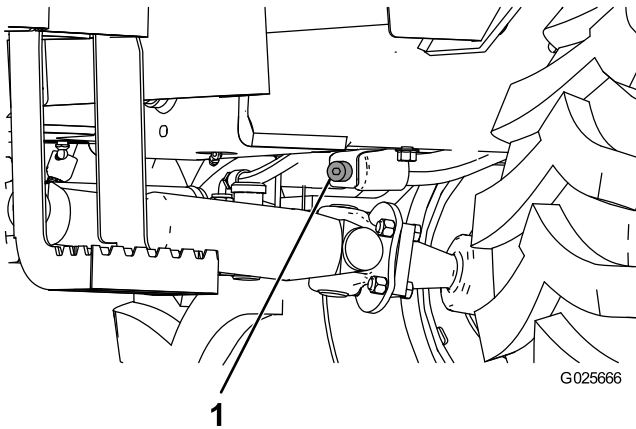

Figure 24
3. Remove the filler cap and the drain plug (Figure 24).